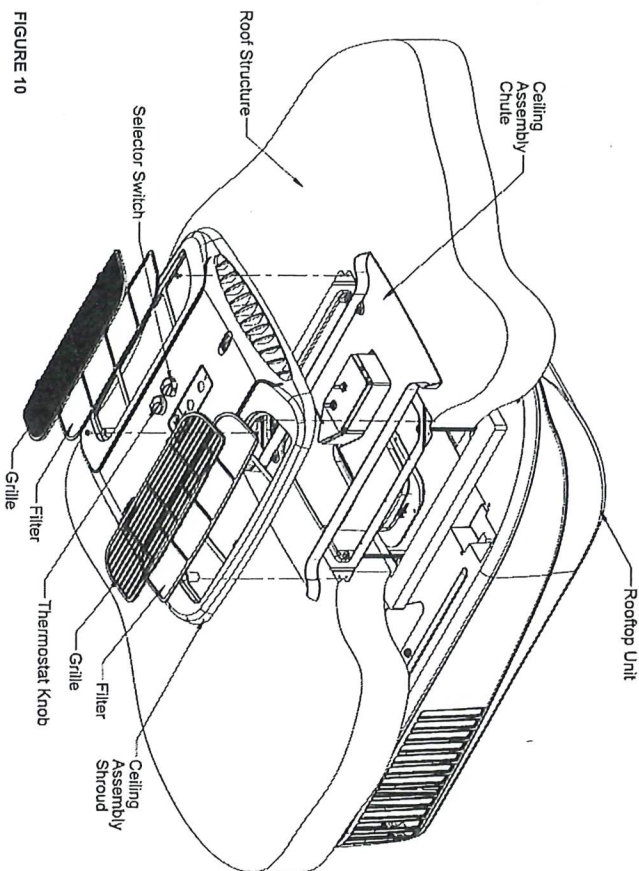

FIGURE 10
- Raise the ceiling shroud, ensuring it meshes with the chute, and secure to the mounting frame with the four provided screws. (See Figure 10).